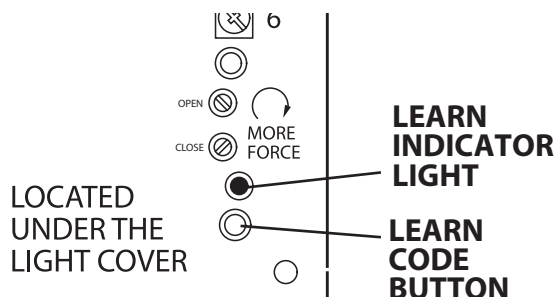

Figure 12 Learn Code Button and Indicator Light.
- Locate Learn Button and Learn Indicator Light near Terminal Block on Power Head (**Figure 12**).